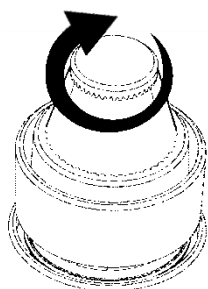

Figure 91
- Rotate the tension knob clockwise to tighten the tension. See Figure 91.